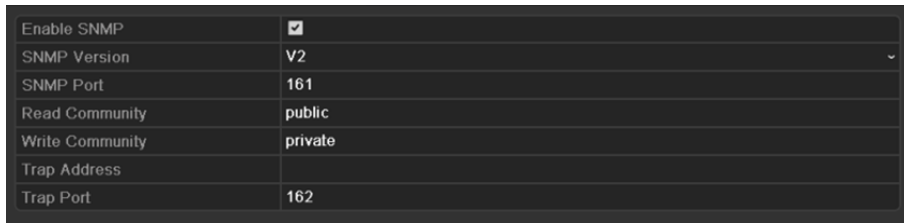

Figure 11-7 SNMP Settings Interface
Step 2 Select the **SNMP** tab to enter the SNMP Settings interface, as shown in Figure 11-7.